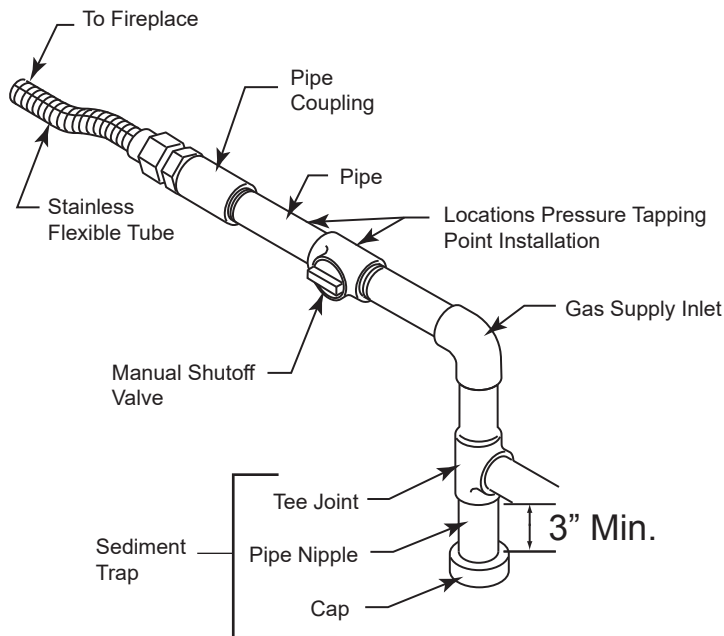

Figure 10. Gas Connection
4. Plumb gas line. Refer to the Connect the Gas (page 13, Figure 10) section found in this manual. (Gas connections should only be performed by an experienced, licensed/certified service person).
A manual shutoff valve must be installed upstream of the appliance. Union tee and plugged 1/8" NPT pressure tapping point should be installed upstream of the appliance. Figure 10
A sediment trap should be installed upstream of the appliance to prevent moisture and contaminants from passing through the pipe to appliance controls and burners. Failure to do so could prevent the appliance from operating reliably. Figure 10